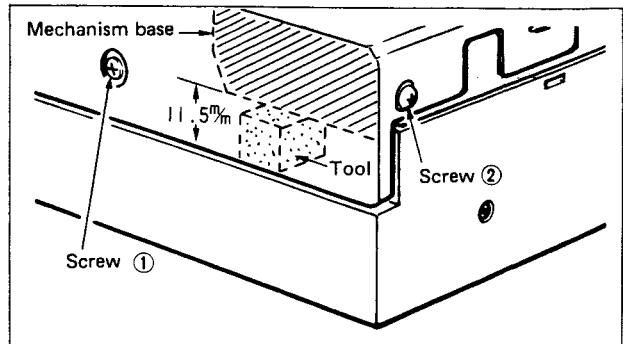

Fig. 4
- Check the standard height between the mechanism base and the cabinet. (11.5 mm: see Fig. 4)
- 3. Connect the voltmeter between TP501 pins ④ and ① on the control P. C. Board.
- 5. Then, adjust VR501 so that the voltage between TP501 pins ④ and ① is DC 4.8 V ±0.05 V.
- 6. Move the tonearm back to the center, and adjust the screw in the tonearm rest part so that the voltage between TP501 pins ④ and ① is DC 1.9 V ~ 2.0 V in the tonearm DOWN mode.
Check the standard height (11.5 mm: see Fig. 4) between the mechanism base and the cabinet.